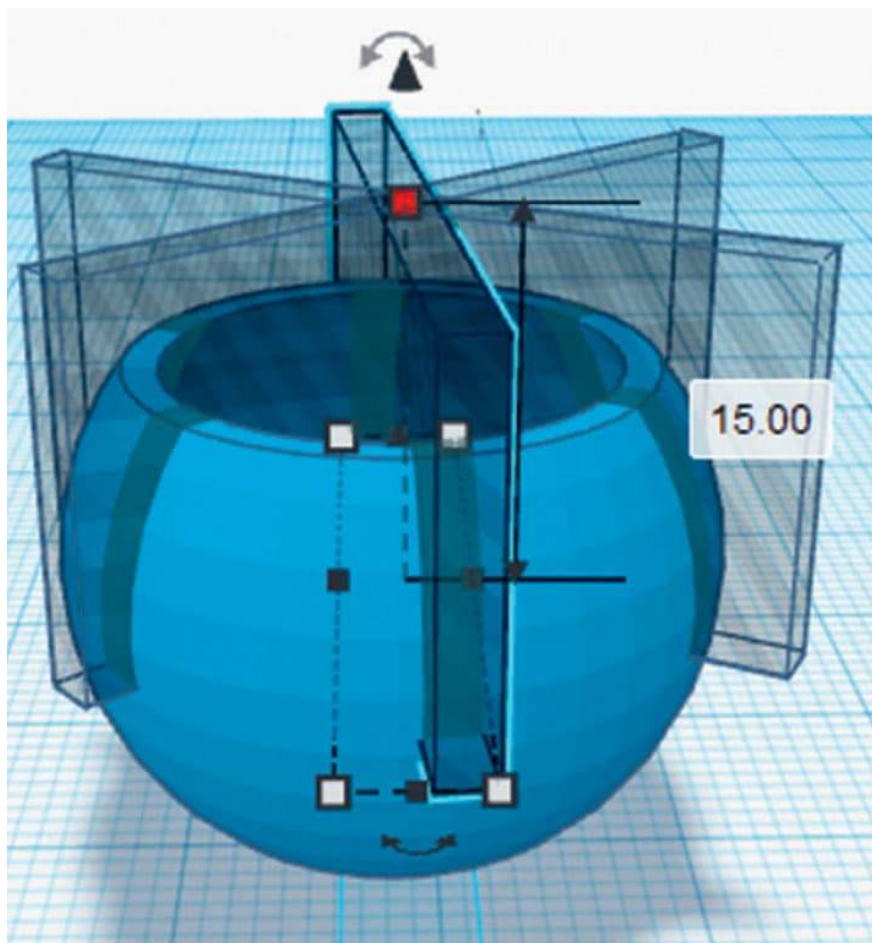

FIG. 3: Use rectangular holes to cut the slots into the hollowed-out sphere.
3. Now we will create slots in the wall of the socket so that it is flexible to allow the ball to insert into it. Create a **Rectangular Prism Hole** and orient it as shown in fig. 3. Care should be taken so that the slot goes till about halfway down the height of the socket. Create two more slots as shown in fig. 3.